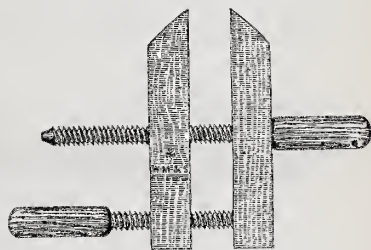

Fig. 39.—Hand-screws.
*Hand-screws.*—These are continually necessary to bind pieces of wood together till the glue has set in the joint. As will be seen from the illustration, Fig. 39, pressure is exerted by turning the two screws, the wood being held between the square jaws. They are made in various sizes, determined by the length of jaws. The nine-inch will probably be most useful to begin with, as there is comparatively little that cannot be done with them. If the screws work unpleasantly stiffly, a little soft soap and blacklead will be found a good lubricant. Oil should not be used, as both screws and jaws being of wood it would cause them to swell.